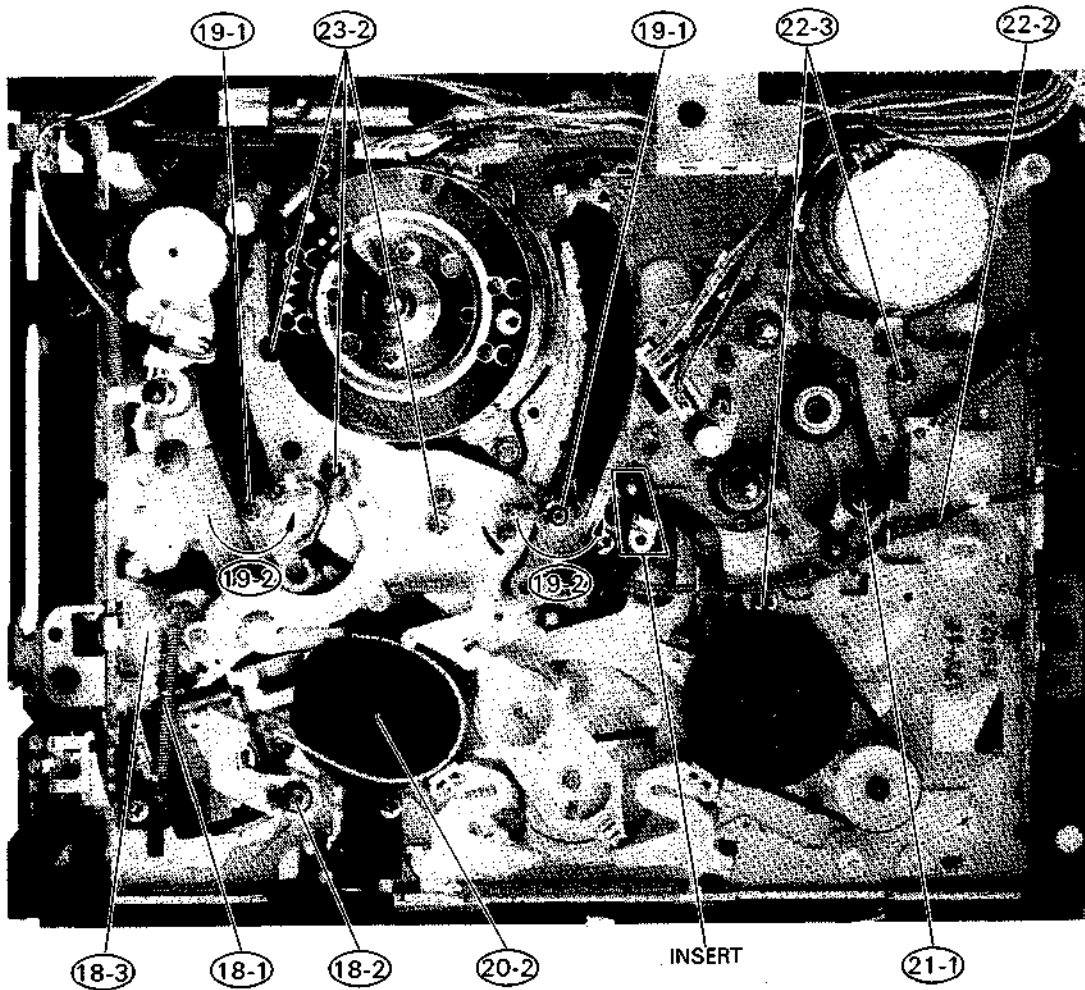

Fig. 14 Top View of Mechanism
* Components in items 18 to 23 are described as if the top and bottom covers, the front panel, the shield cover, and cassette loading mechanism have already been removed. See item 4 in the section on cassette loading mechanism removal and items 2, 3, 4 and 5 in the section on case removal.
18. Tension Arm/Tension Band (Fig. 14)
19. Guide Roller (Fig. 14)
20. Supply Reel Disk (Fig. 14)
21. Pressure Roller (Fig. 14)
22. Arm Bracket Assembly (Fig. 14)
23. Guide Base/Loading Link (Fig. 14)